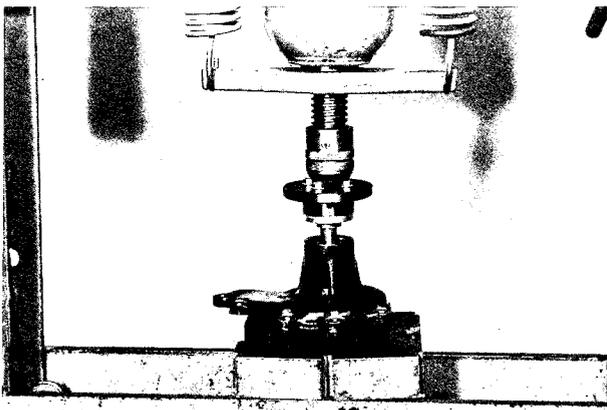

Fig. 3-10 Installing pulley boss
9. Press the water pump pulley adapter and pulley boss onto the pump shaft until it contacts with the bearing inner race as shown in Fig. 3-10.